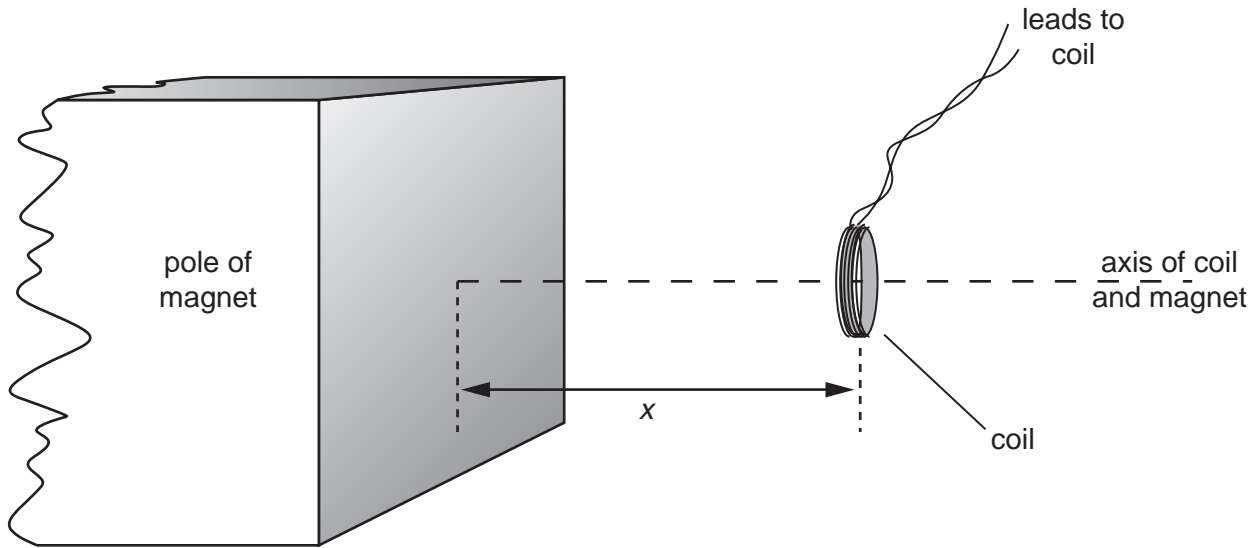

Fig. 4.1
- 3 A small coil is positioned so that its axis lies along the axis of a large bar magnet, as shown in Fig. 4.1.